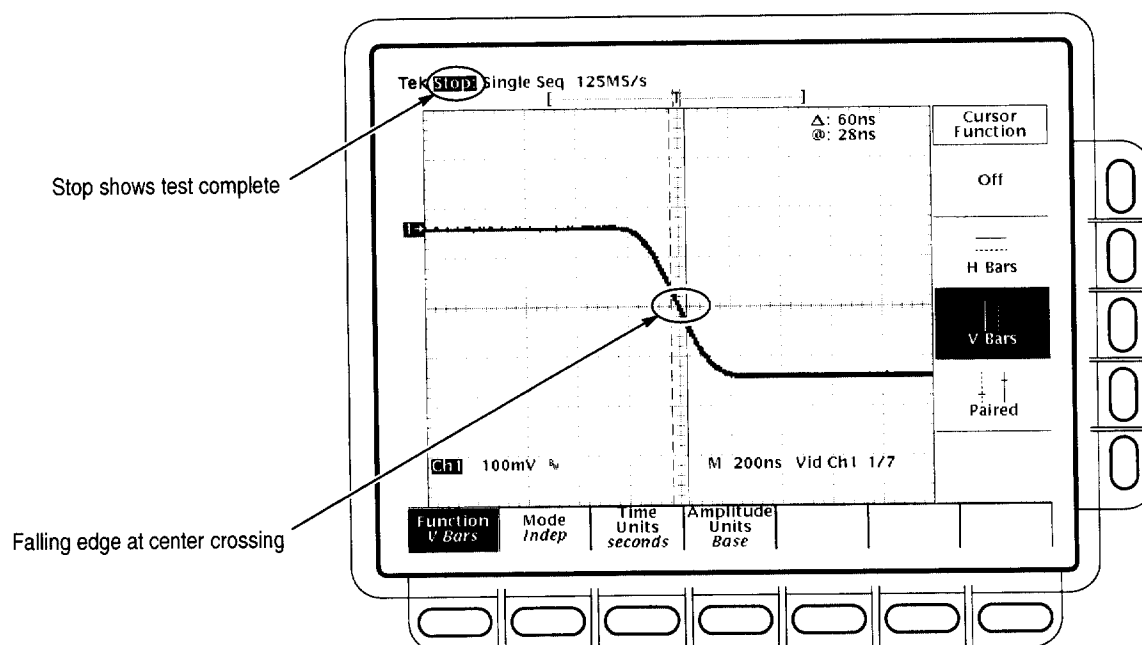

Figure 1–29: Jitter test when completed – TDS 754D shown
- i. **CONFIRM** that the width of the falling edge of the trace (at the center crossings) falls between the cursors. See Figure 1–29.